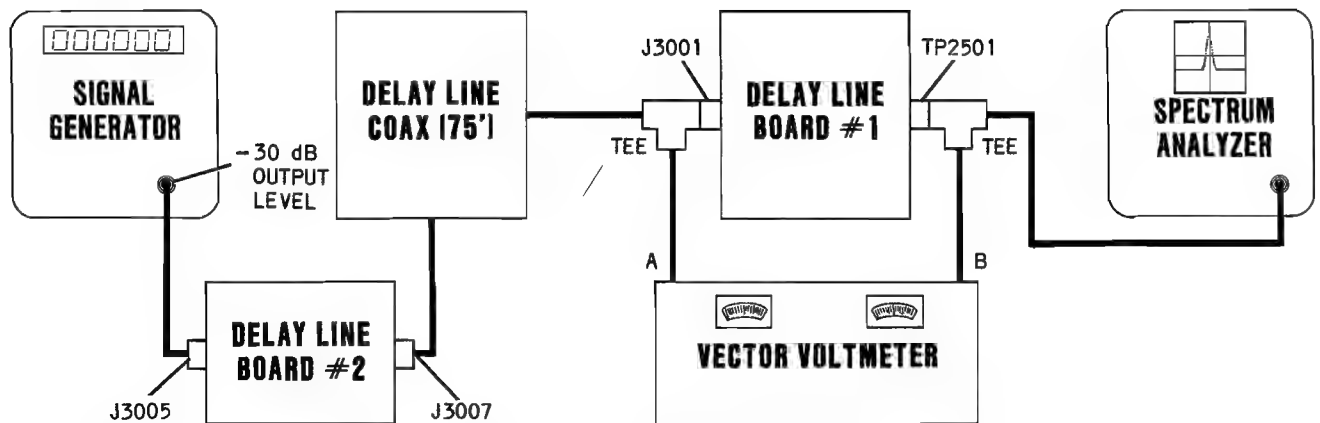

Figure 5-6 Phase-Shift Test Hookup
10. Connect equipment as shown in Figure 5-6.